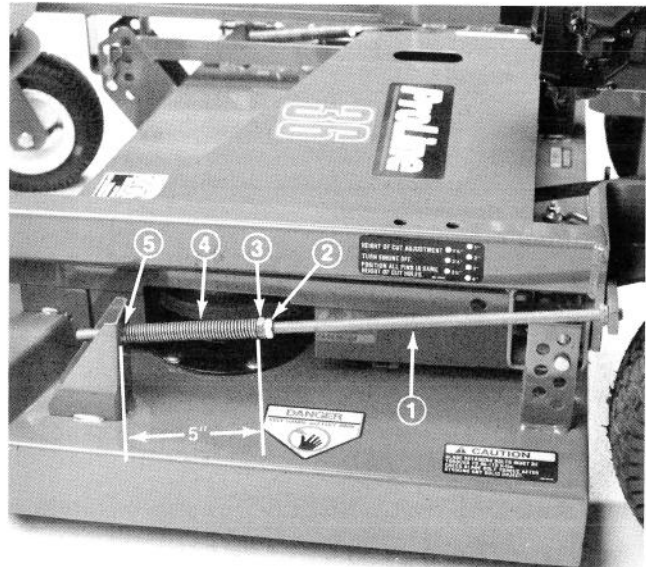

Figure 4
2. Thread (2) jam nuts onto each adjusting shaft. (approximately 7 inches) (Fig. 4).
3. Slide a washer, spring and bushing onto each adjusting shaft. Bushing to be positioned so flange end is against spring (Fig. 4).
4. Insert spring end of each adjusting shaft into hole in deck mounting bracket and other end of shaft into hole in carrier frame mounting tab. Small end of bushing to fit into hole in deck bracket (Fig. 4).
5. To tension belt, tighten front jam nut on each adjusting shaft until springs are compressed to a length of 5", measured between washer and bushing (Fig. 4). Secure rear jam nuts.